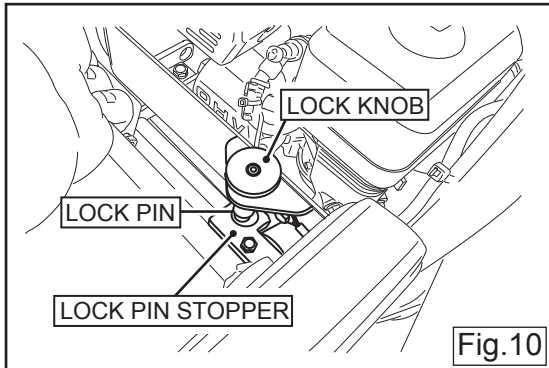

Fig.10
- After the lock pin stopper touches the lock pin, the lock pin moves up, and once it fits into the stopper hole, it moves down automatically. Revolve until the lock pin is set to this locked condition. (Fig. 10)